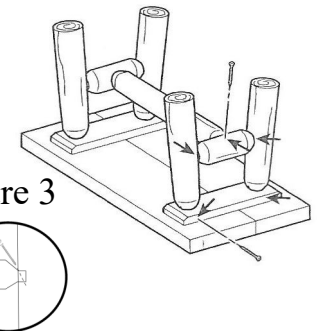

Figure 3
STEP 3 Secure dowel joints in place with screws perpendicular to the doweled end as shown in figure 3. Attach a screw in the areas indicated by arrows, on both ends.